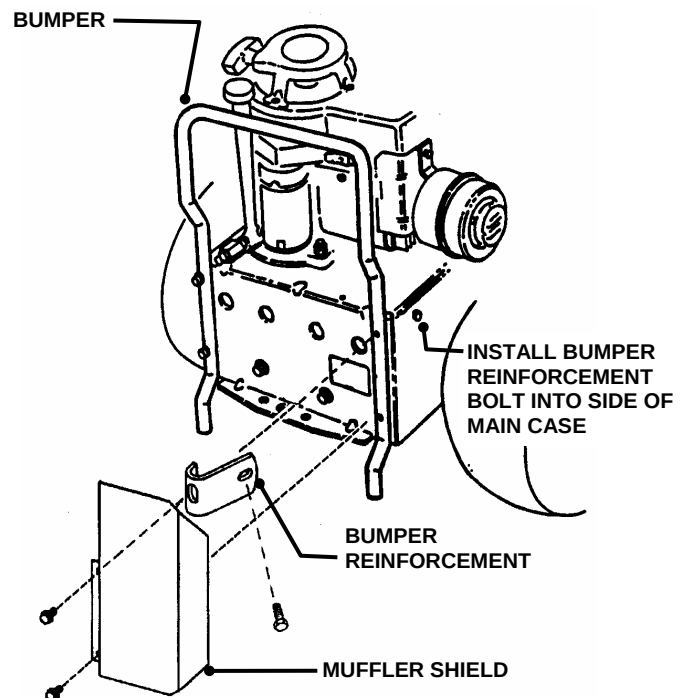

FIGURE 4
2. **HEAT SHIELD:** Remove both screws from right side of bumper. Remove bolt from right side of main case. Position the muffler shield so that the holes line up with the holes on the bumper. Position the bumper reinforcement with top hole of bumper. Reinstall screws and tighten securely. Install bolt into bumper reinforcement and tighten securely into side of main case. See Figure 4.